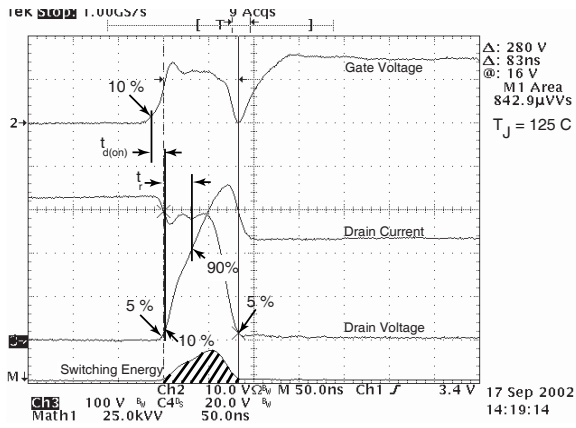

Figure 18, Turn-on Switching Waveforms and Definitions
① Repetitive Rating: Pulse width limited by maximum junction temperature
② Pulse Test: Pulse width < 380  $\mu s$ , Duty Cycle < 2%
③ See MIL-STD-750 Method 3471
④ Starting  $T_J = +25^\circ C$ ,  $L = 1.51mH$ ,  $R_G = 25\Omega$ , Peak  $I_L = 46A$
⑤  $dv/dt$  numbers reflect the limitations of the test circuit rather than the device itself.  $I_S \leq -I_D 46A$   $di/dt \leq 700A/\mu s$   $V_R \leq V_{DSS}$   $T_J \leq 150^\circ C$
⑥  $E_{on}$  includes diode reverse recovery. See figures 18, 20.